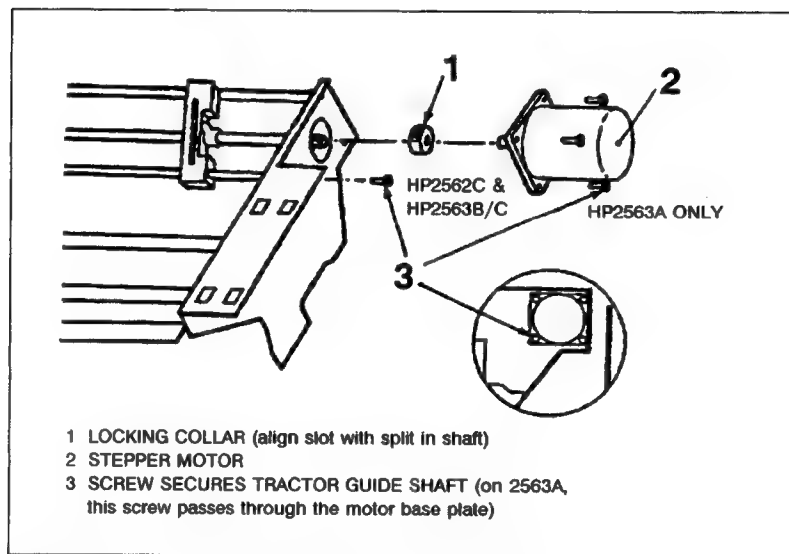

Figure 6-6. Tractor Drive Shaft Collar Alignment
- c. Using a 3mm internal hex driver (allen wrench), loosen the set screw on the locking collar slot at the stepper motor tractor drive shaft (see Figure 6-6, item 1).
- b. Remove the three 3 mm hex head screws (four pozidrive on 2563A) securing the stepper motor to the printer weldment (see Figure 6-6).